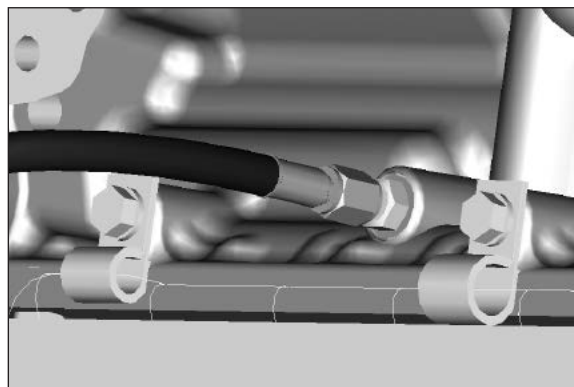

Fig. 35
8. Using the special fitting (379812) to securely attach the high pressure line to the transmission. This fitting is included with the PTO Tighten to 8-10 lbs-ft [11.0-13.5 Nm] (**Fig. 35**).